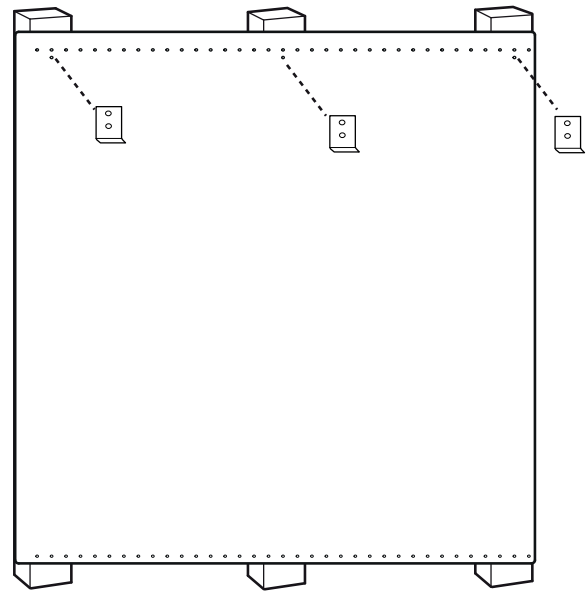

Figure 11: Backsplash with a Keep Hot Shelf
3. At the locations indicated in *Figure 11*, mount the lower shelf brackets included with the Keep Hot Shelf through the Backsplash and into the wall studs.